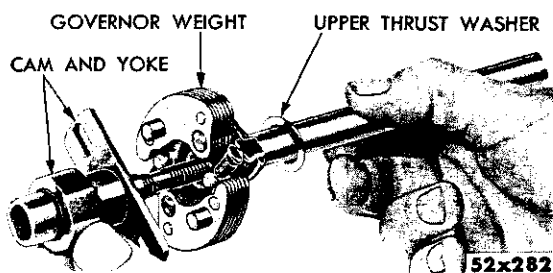

Fig. 88—Distributor Shaft Assembly
(1) Test the operation of the centrifugal weight and inspect the weight springs for distortion. Lubricate the governor weights.
(2) Inspect all the bearing surfaces and pivot pins for roughness, binding or excessive looseness.
(3) Install the cam spacer, chamfered end down on the distributor shaft.
(4) Slide the cam and yoke on the distributor shaft, engage the weight lugs with the slots in the yoke (Fig. 88). Install the cam retaining spring clip. Be sure it is properly seated in the groove of the distributor shaft.
(5) Lubricate and install the two concave upper thrust washers for AutoLite distributors or a single flat thrust washer for Chrysler-built distributors. Position the washers on the distributor shaft and slide the shaft into the distributor body. Position the lower thrust washer and drive the collar on the lower end of the shaft. Install the retainer pin.
(6) Install the oiler wick and oiler.
(7) Install the breaker plate assembly. Align the condenser lead, breaker point spring, primary lead and install the attaching screws.
(8) Install the felt wick in the top of the distributor cam.
(9) Attach the vacuum advance unit arm to the breaker plate and install the retainer. Install the vacuum unit attaching screws and washers.
(10) Test the breaker arm spring tension, and adjust the contact gap.
(11) Lubricate the felt pad in the top of the distributor cam with 3 to 5 drops of light engine oil and install the rotor.